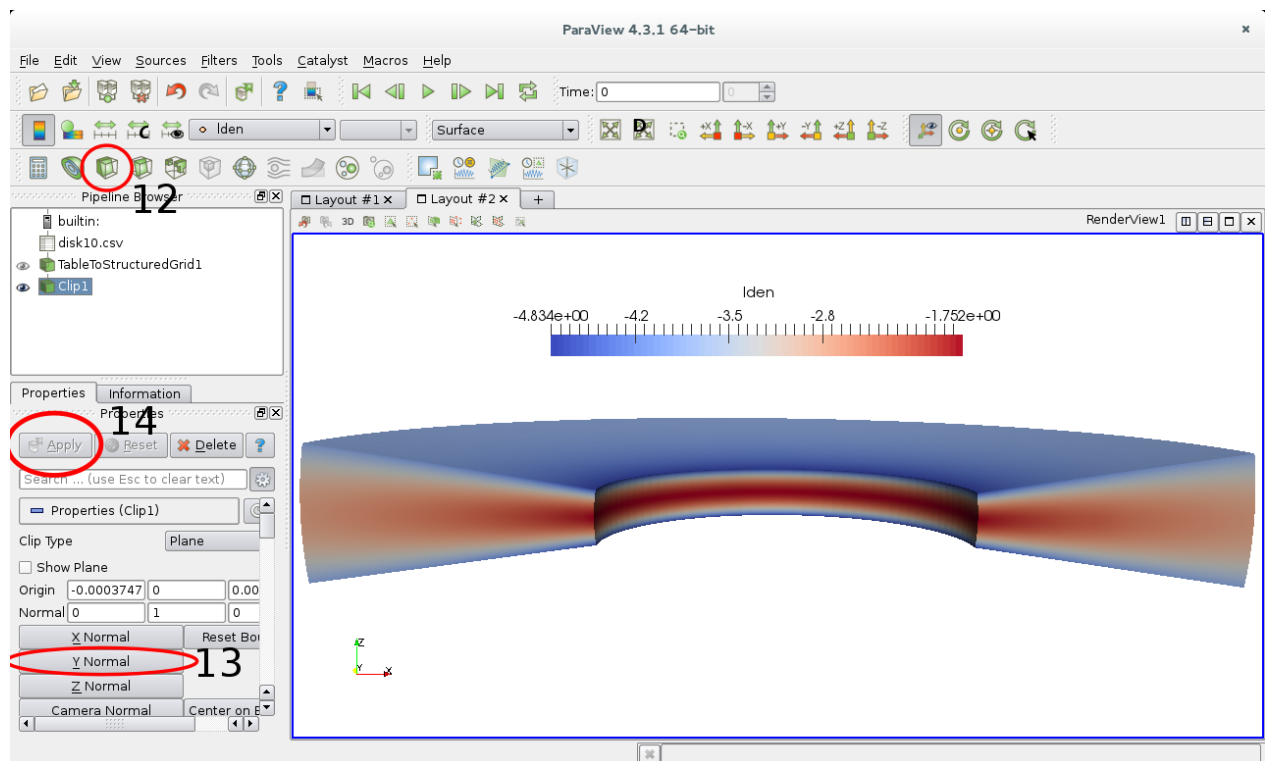

Figure A.6: 3D visualization with Paraview. Steps 12-14.
12. To finish, let’s make a cut on the grid to visualize the density profile. Select the cut icon (see Fig. A.6).
14. Press apply, you should obtain something like in the figure A.6. This is the typical 3D-density profile of an isothermal circumstellar disk.